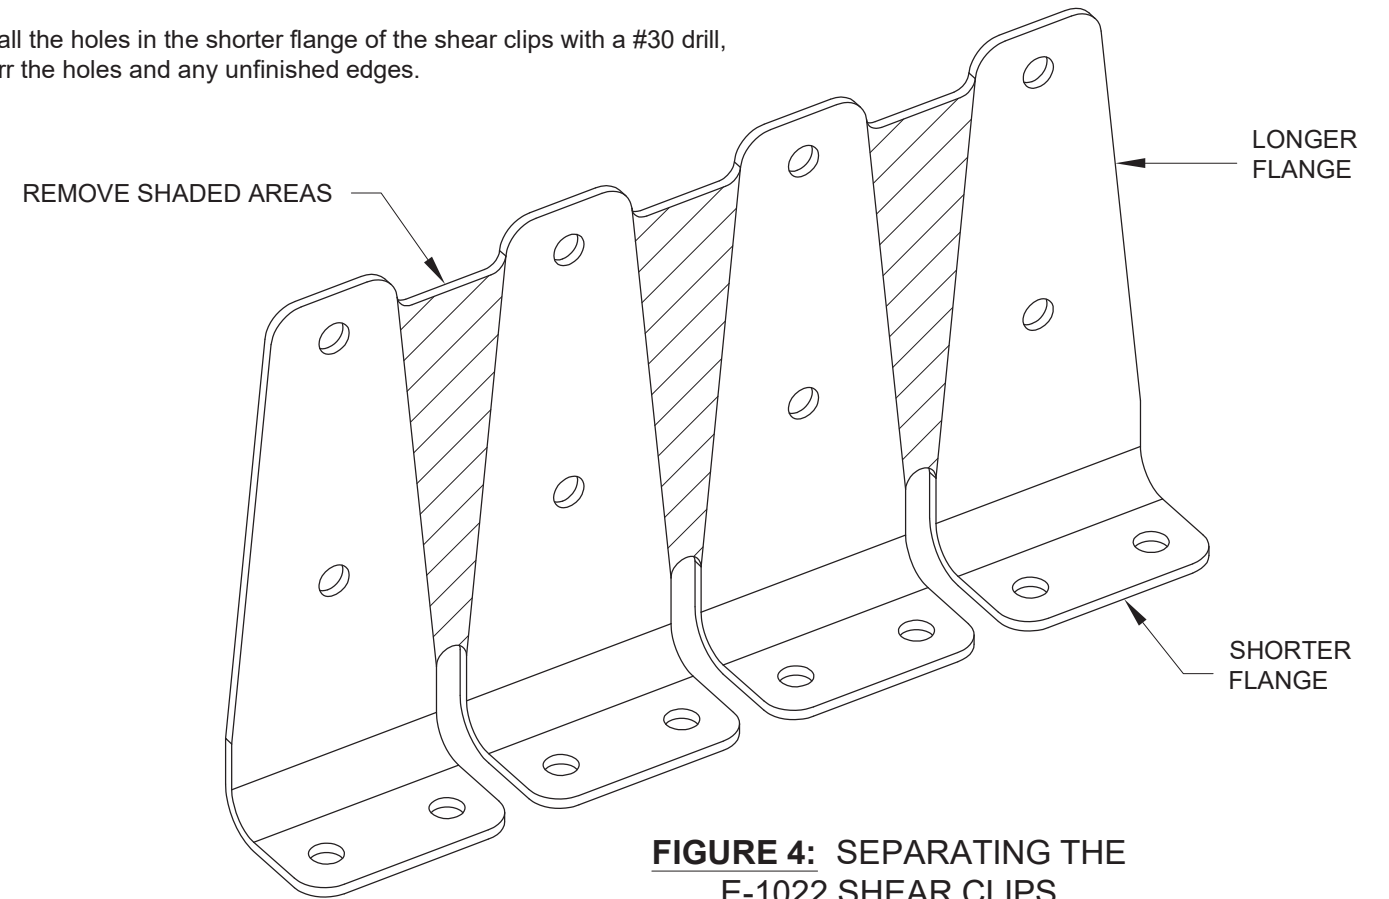

FIGURE 4: SEPARATING THE E-1022 SHEAR CLIPS
Step 7: Separate the four E-1022 Shear Clips by removing the material show in Figure 4.